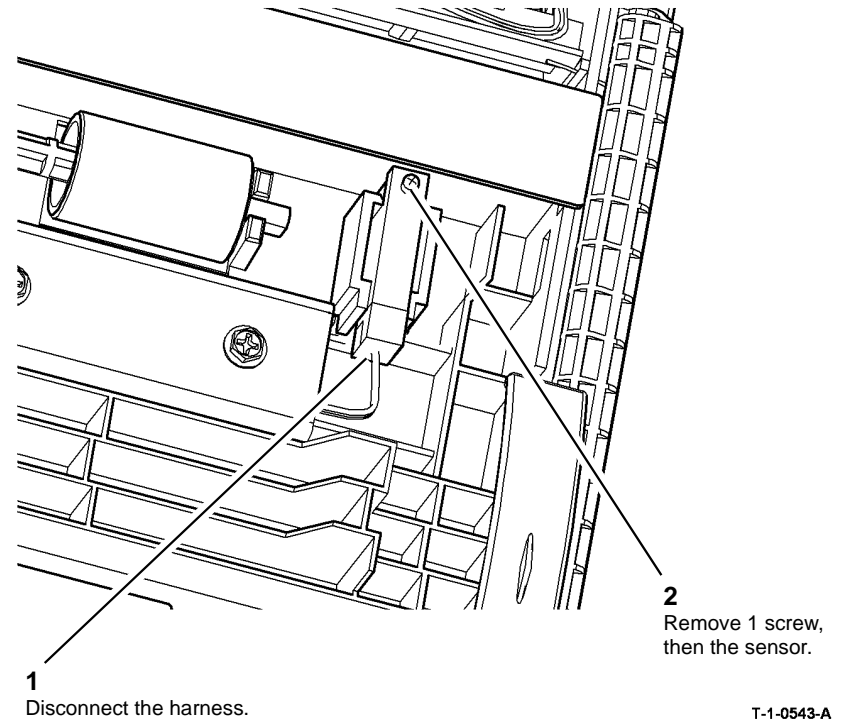

Figure 4 Remove the feed sensor
5. Remove the feed sensor, Figure 4.